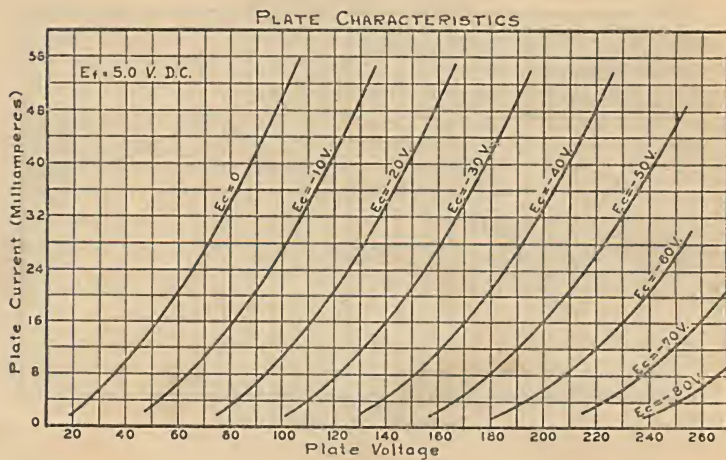

Fig. 13
**Plate Characteristics**—Fig. 13 shows the relation between plate current and plate voltage at various bias voltages.